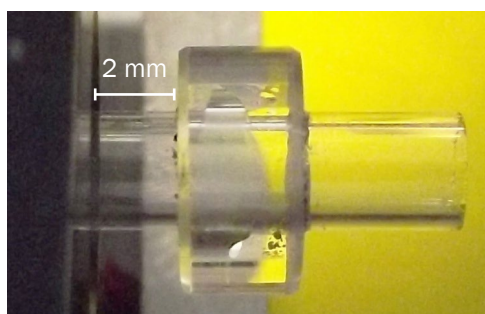

Figure 5: Final position of the cold trap.
- If the cold trap is installed correctly, the glass collar should be approximately 2 mm from the heat sink assembly (Figure 5).